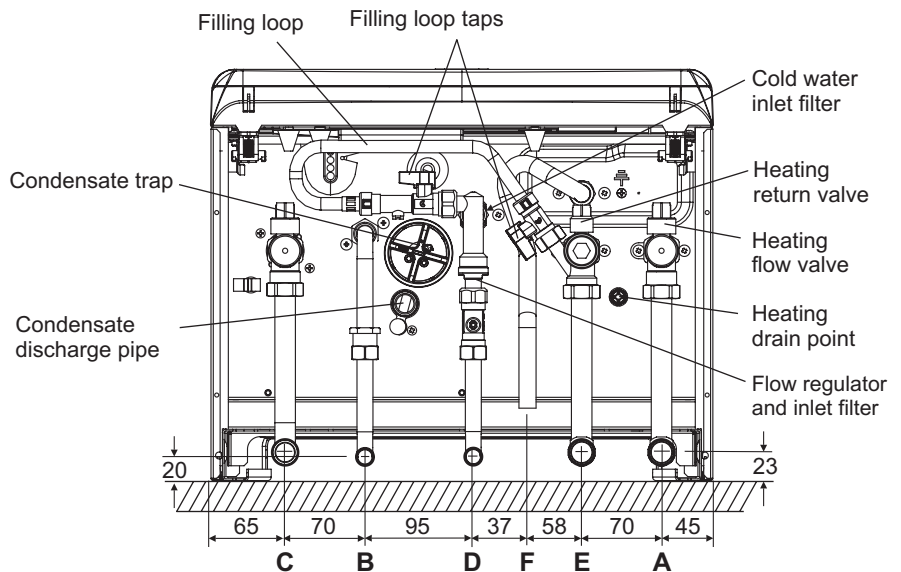

Fig. 4.3
4.5 CONNECT THE PIPEWORK - Fig. 4.3